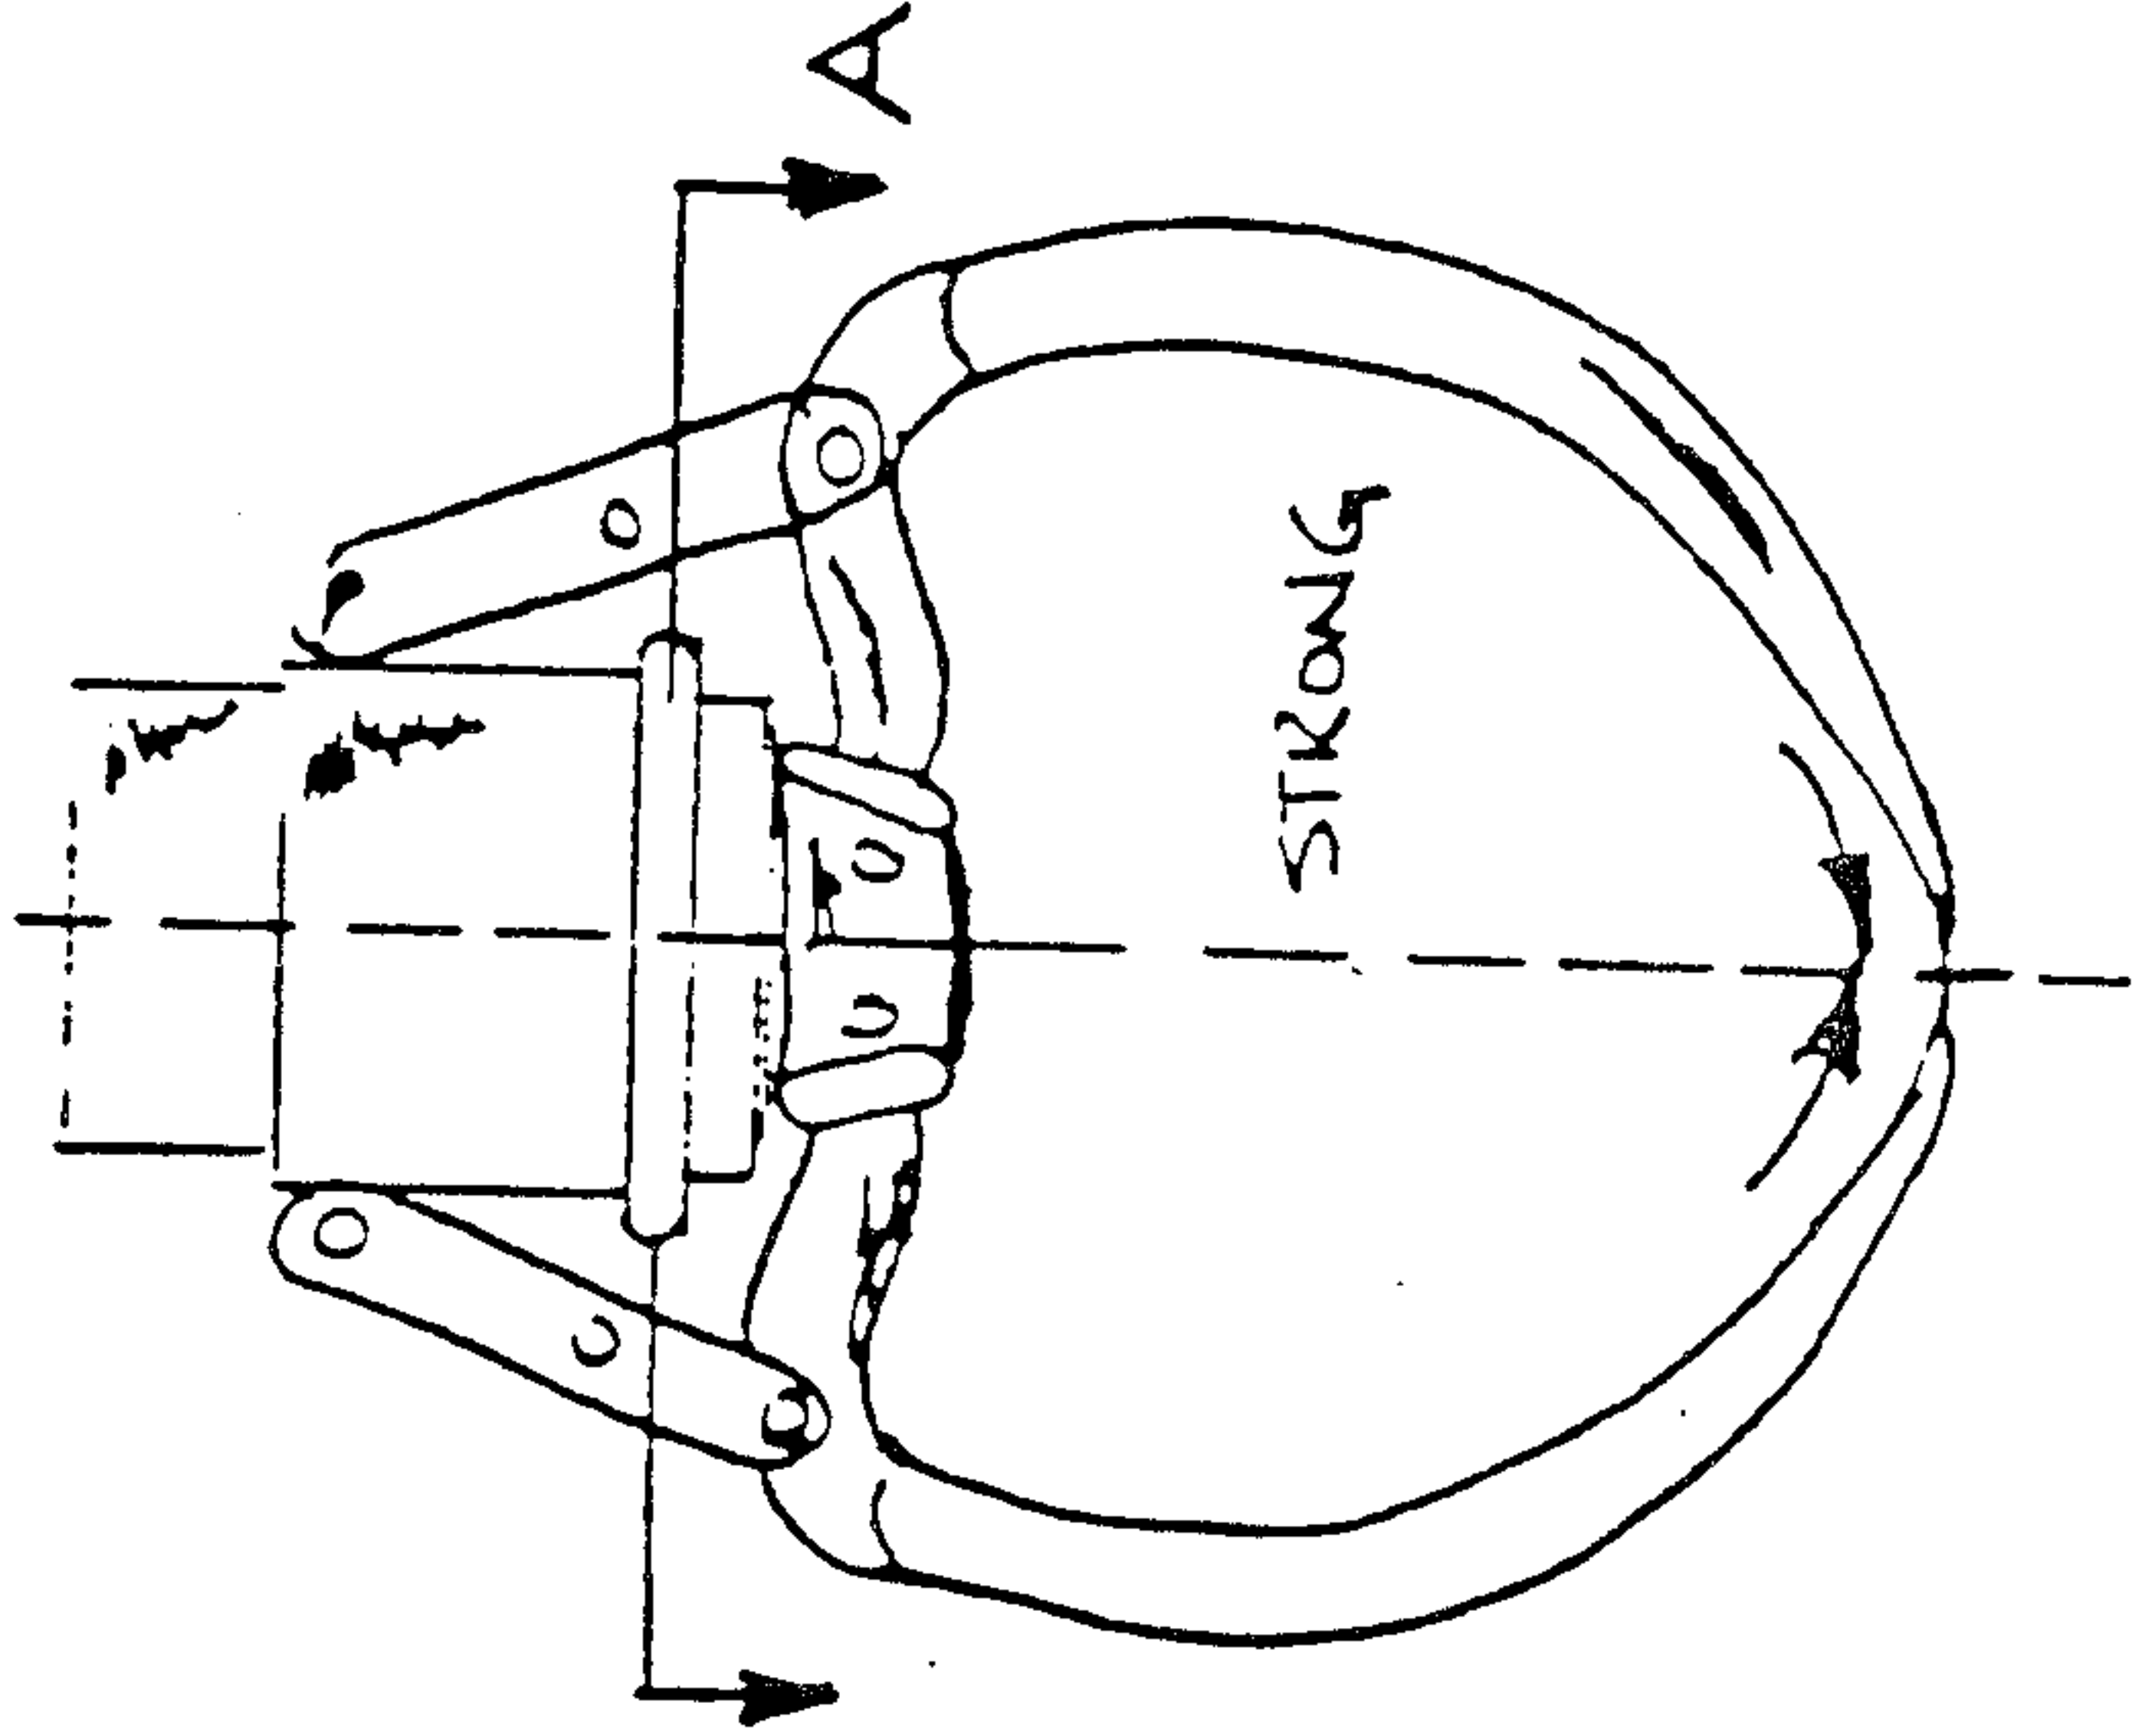

FIG 2
2. The collar, A in Figures 2 and 3, can be moved up or down by loosening the set screws. This collar controls the closed position of the claws. The higher up the chrome collar (Figure 3), the more open the claws remain when the mechanism is in the home position.